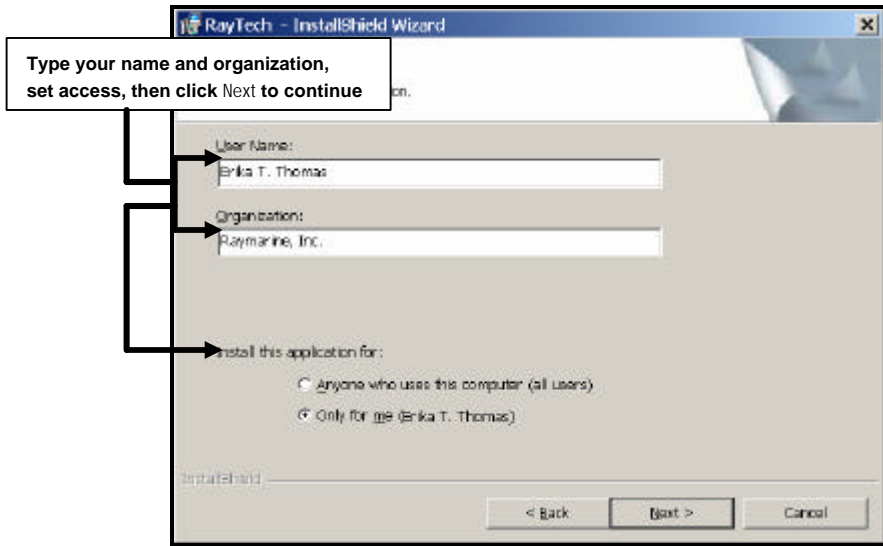

Figure 2-3 InstallShield Wizard Customer Information Screen
3. Make our Legal Department happy by reading all the text, then click the checkbox beside “**I accept ...**” and click **Next** to display the ISW Customer Information screen (Figure 2-3).